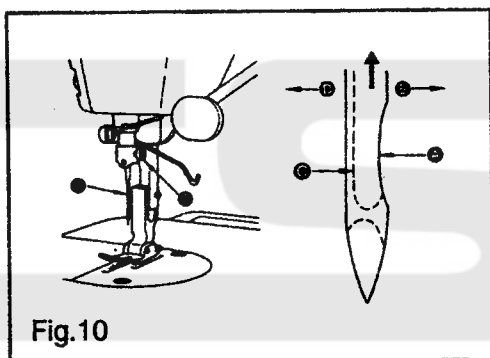

Fig. 10
7. ATTACHING THE NEEDLE (Fig. 10)